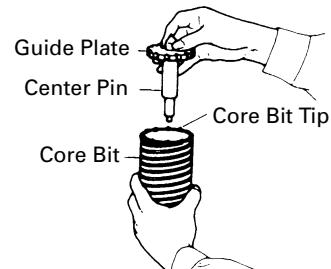

Fig. 12
- (3) Insert the center pin into the guide plate until it stops.
- (4) Engage the guide plate with the core bit, and turn the guide plate to left or right so that it does not fall even if it faces downward. (Fig. 12)